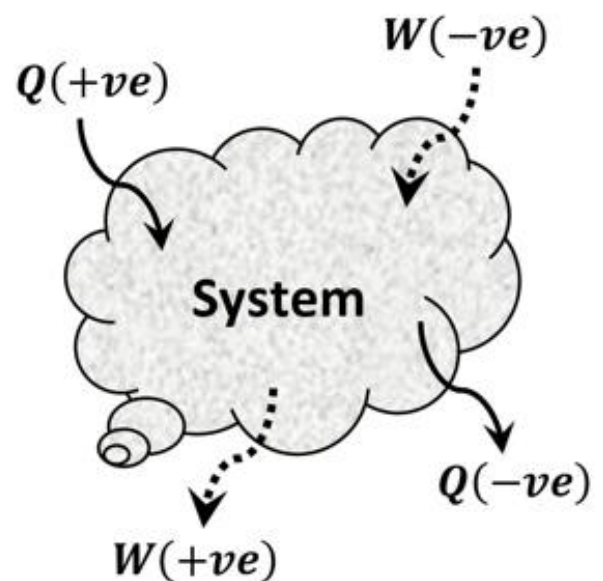

Fig. 1.10 Sign convention for heat & work
- Heat and Work are directional quantity, and its specification requires magnitude and direction both. Universally accepted sign conventions for heat and work energy are shown in Fig. 1.10.